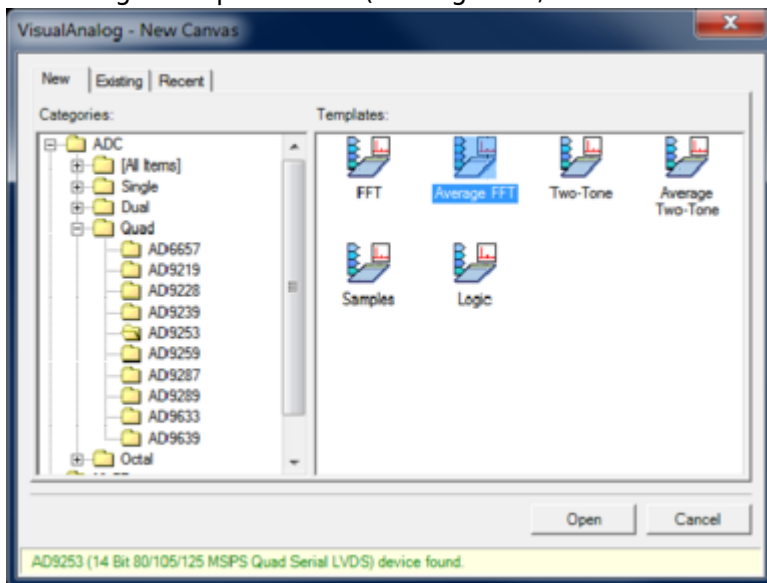

Figure 3. VisualAnalog, New Canvas
1. Open VisualAnalog on the connected PC. The appropriate part type should be listed in the status bar of the **VisualAnalog - New Canvas** window. Select the template that corresponds to the type of testing to be performed (see Figure 3, where the AD9253 is shown as an example).